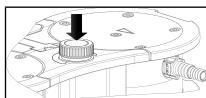

Fig.7: Switching the pump on and off with rotary/push knob
- Switch on the pump by pushing the rotary/push knob (see Fig. 7).